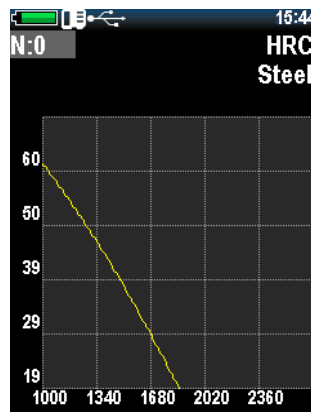

Figure 2.35 - The Graduation Window
3. Push , and the calibration window will open on the display (Figure 2.35).